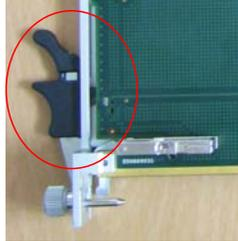

Figure 4-3 Injector (Bottom side)
Step 1: The injector handles (top and bottom) shown in Figure 4-3 should be opened to plug the board into a chassis slot.
Step 2: The board should be aligned on to the rail (marked as (A)) in the reserved slot for the board
Step 3: Slide the board into the chassis until the guide of the faceplate and the hole of the chassis meet as in (B)